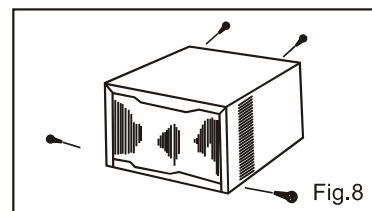

Fig.8
some Models have two more screws on the back of the cabinet. (Fig.8)
- 7) Reinstall the retaining bracket, front panel and mounting screws.(Fig.8,7,13)